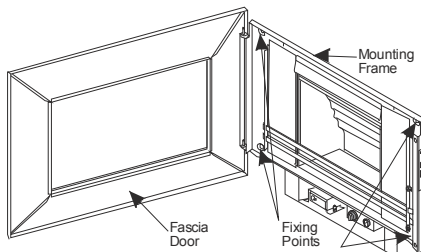

Figure 64
2. Separate the door from the mounting frame by opening and lifting the door off of the two-part hinges as indicated in **Figure 64**. Set the door carefully aside.